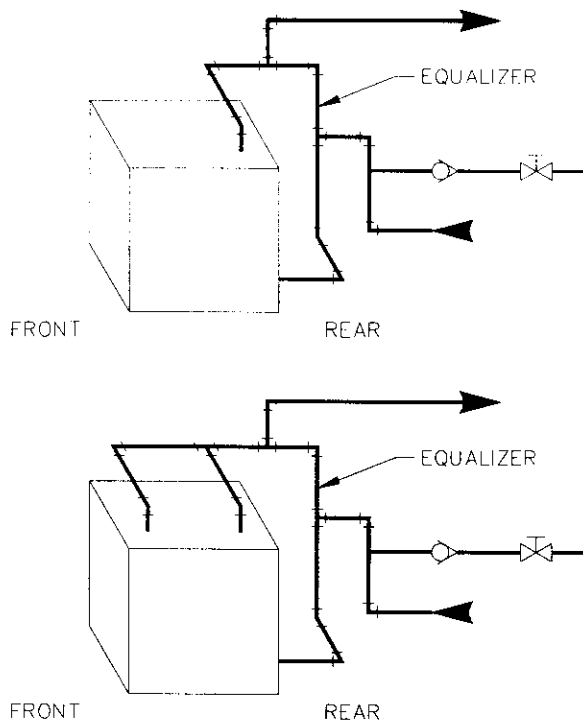

Figure 5
- 1 – See Figures 5 and 6 for suggested piping to the boiler. Also, see Hydronics Institute Residential Hydronic Heating Guide 2000.